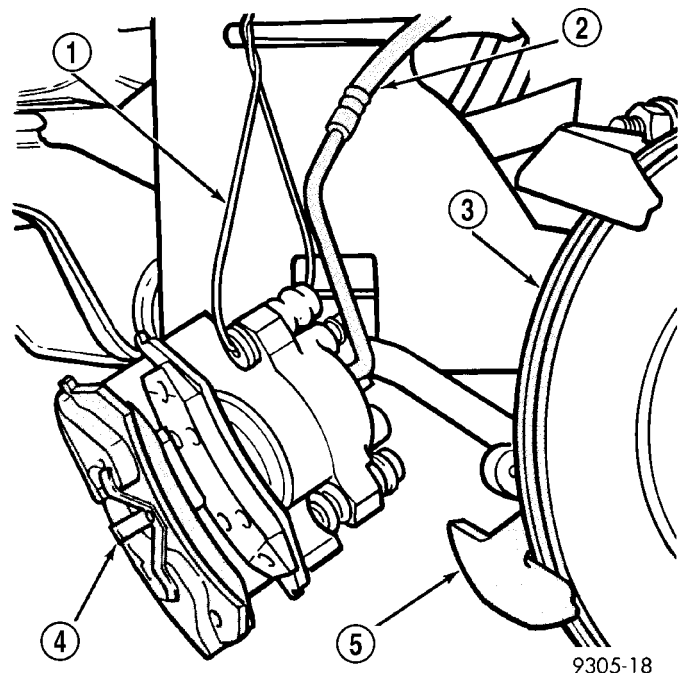

Fig. 13 Supported Caliper
(5) Hang the caliper off to the side using wire or bungee cord (Fig. 13). Do not allow the caliper to be supported by the flexible brake hose. Damage to the flexible brake hose may result.